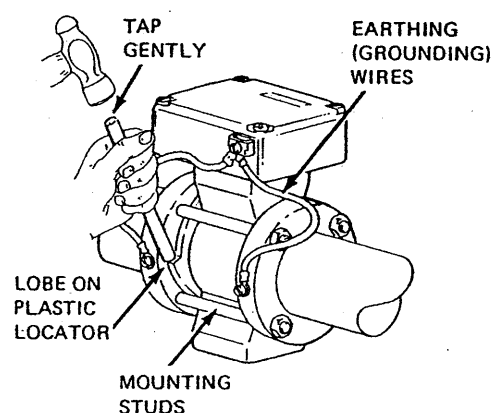

Figure 11. Aligning Wafer-Body Flowtube
8. Refer to Figure 11. With a blunt rod and small hammer, gently tap one of the locator lobes so that locator turns about flowtube axis and comes in contact with a mounting stud. Repeat for other locator.